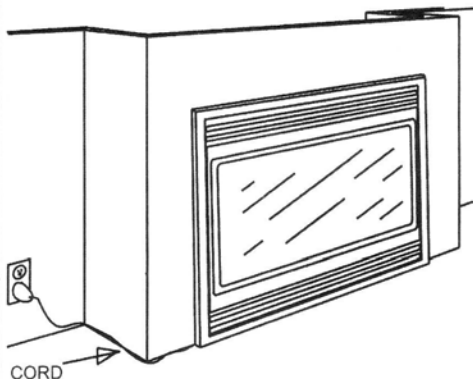

FIGURE 4
**Option #1** - The power cord can be lead from behind the trim and along the wall to an outlet near the fireplace. (FIGURE 4)